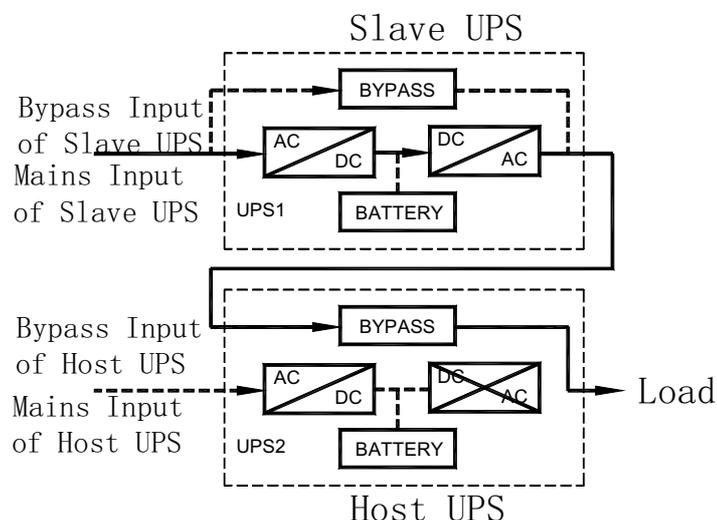

Fig 3-8 Power flow chart of hot standby system when the master UPS has fault
When master UPS has fault, it switch to bypass, slave UPS start to power load, as per Fig 3-8, thick lines stand for the power flow when the master UPS has fault in the hot standby system.
- 4) Other connections are same as for single unit, refer to Fig 3-8.